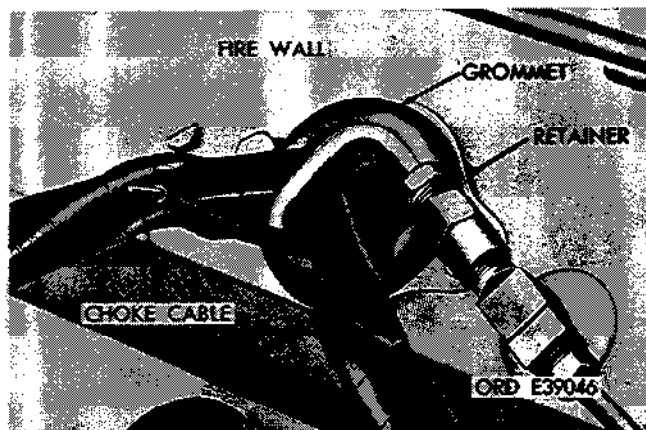

Figure 2-105. Remove choke control cable assembly through grommet.
(4) Remove cable and housing assembly through firewall grommet and through firewall. If necessary, remove retainer securing grommet to firewall (see fig. 2-105).
b. *Installation.* Install choke control cable assembly by reversing removal operations (4) back through (1). Refer to figures 2-105 back through 2-103.